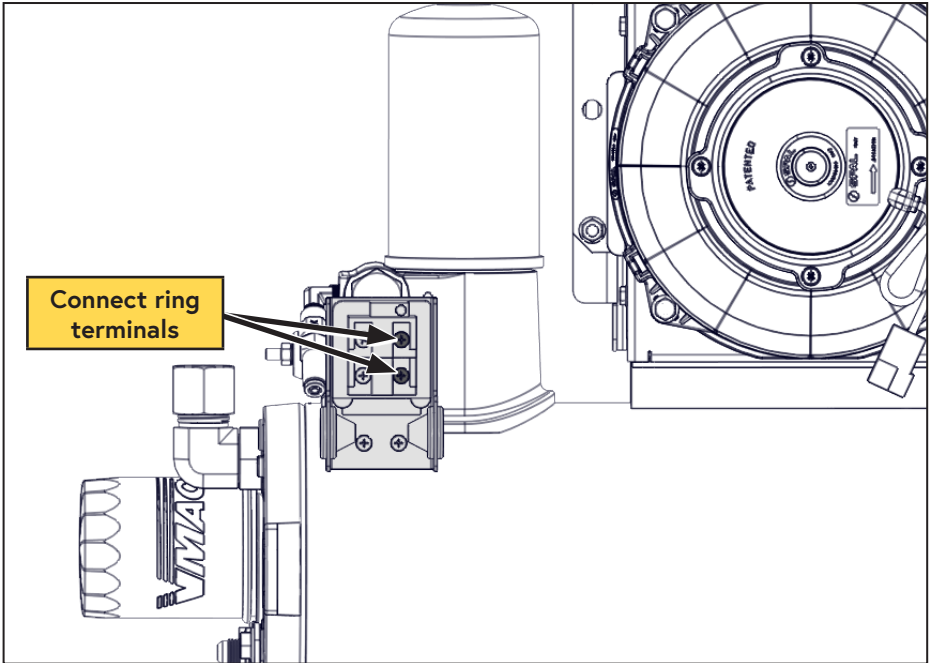

Figure 53 — Connect pressure switch
- Connect the ring terminals from the white wire running from CN3 of the control module, and the grey wire running from the pressure switch harness to the pressure switch on the WHASP Tank (these are not polarity dependent) (Figure 53).